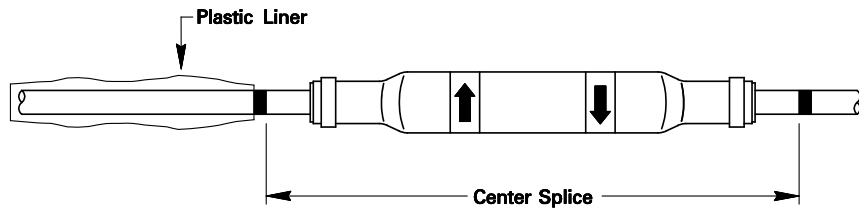

Figure 9
3. **Slide Cold Shrink Body Into Position** – Remove the red factory tape securing the plastic cover. Unfold the plastic and slide the cold shrink body into the center of the splice area. The plastic liner will be left behind and can be removed at this point. Refer to Figure 9 below.